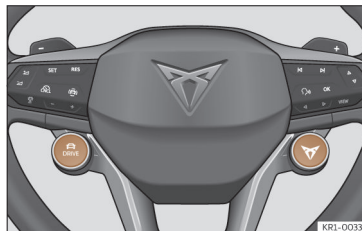

Fig. 111 Multifunction steering wheel: DRIVE and CUPRA buttons for selecting and changing the drive profile.
- **OR:** Press the **DRIVE** button on the multifunction steering wheel >>> **Fig. 111** to activate the **Cupra** drive profile.
- **OR:** Repeatedly press the **DRIVE** button on the multifunction steering wheel >>> **Fig. 111** to switch between drive profiles.